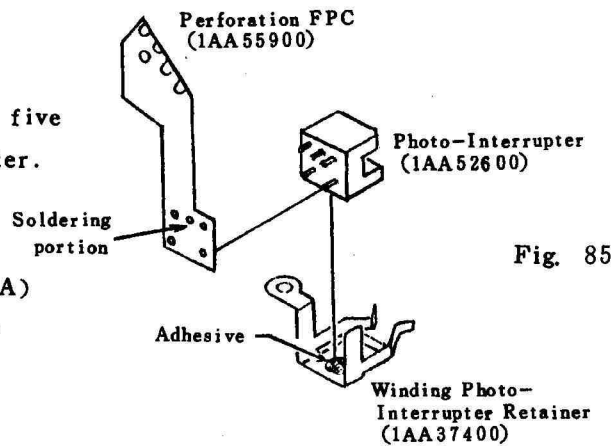

Fig. 85
2. Apply an adhesive (cemedine 551A) to the Winding Photo-interrupter Retainer and fix it to the Photo-interrupter. (See Fig. 85)